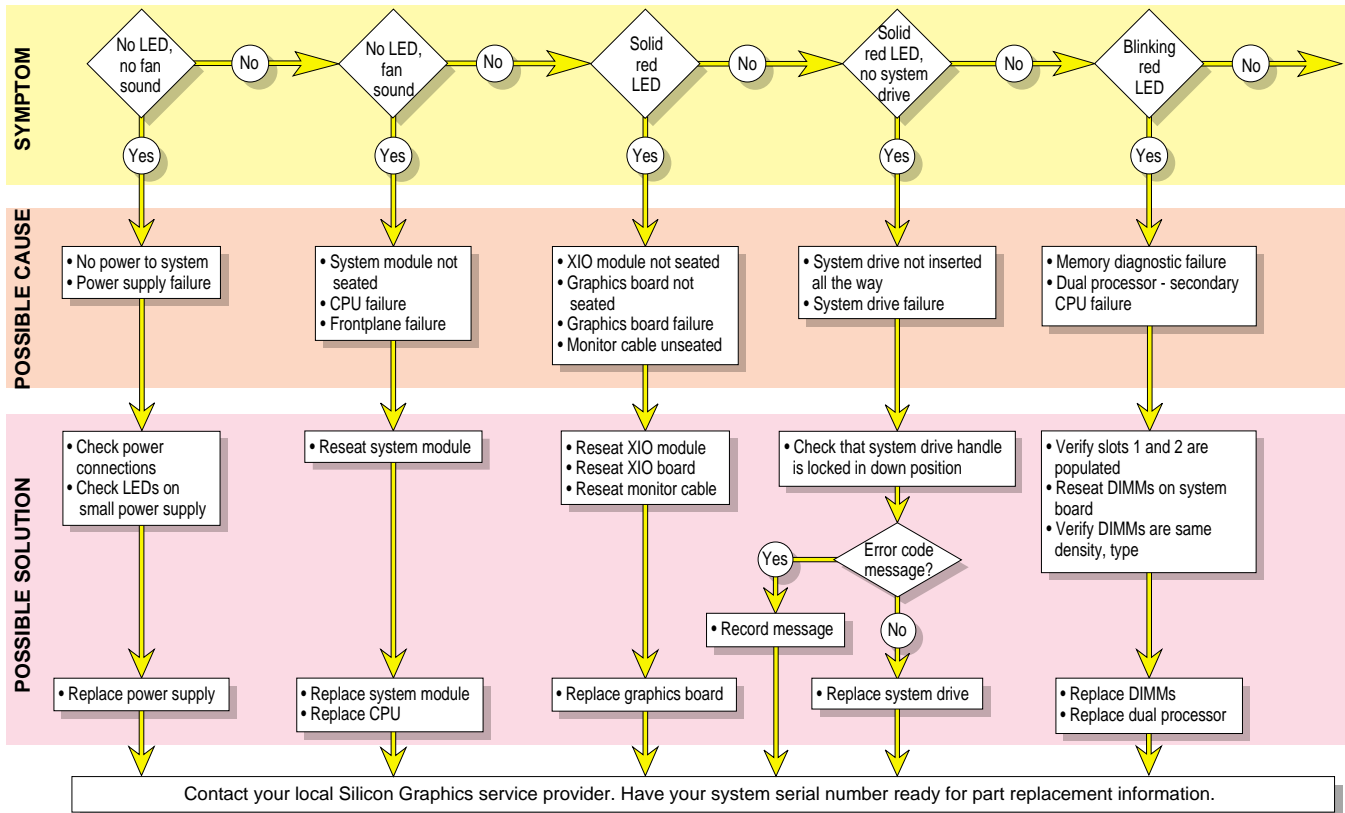

Figure 8-1 Lightbar LEDs - Front of OCTANE, Diagnostic Chart #1
- Lightbar LEDs - Front of OCTANE, Diagnostic Chart, Figure 8-1